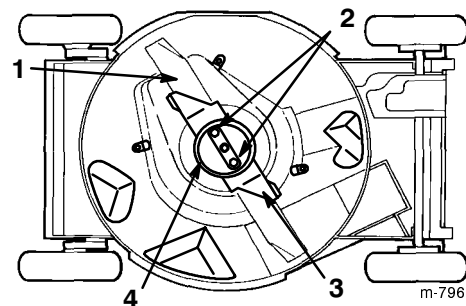

Figure 26
4. Tip the lawn mower onto its **right** side (Fig. 26).
Grasp the end of the blade using a rag or a thickly padded glove. Remove the blade nuts, the anti-scalp cup, the accelerator, and the blade (Fig. 26).
5. Remove two blade nuts, the anti-scalp cup, the accelerator, and the blade (Fig. 26).